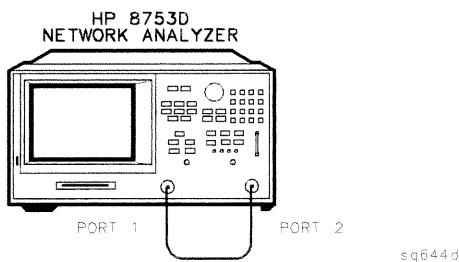

Figure 3-4. First Connections for Insertion Loss Measurement
11. Connect the 24 inch cable from Port 1 to Port 2, as shown in Figure 3-4.